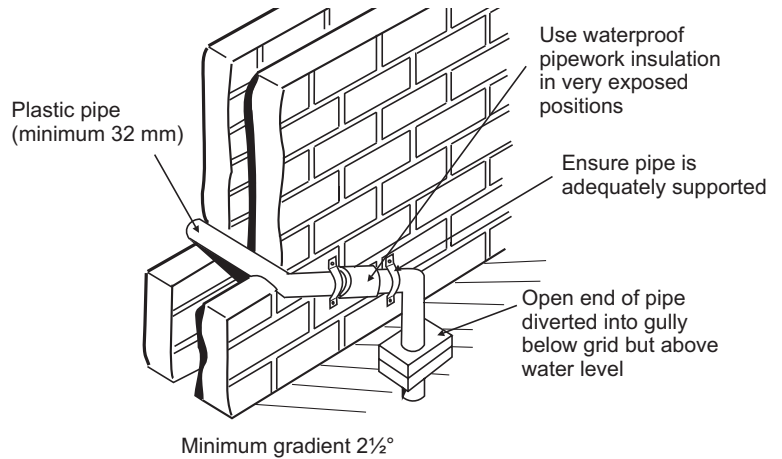

Fig. 3.7 - External gully
External pipe runs should be avoided, but if it is necessary, the pipework should be protected from the risk of freezing with waterproof insulation and the length should be kept to a maximum of 3 m and the condensate pipework should be increased to a minimum of 32 mm diameter. Termination should be into an external gulley or soakaway as shown in Figs. 3.7 and 3.8.
**Note:** All pipework must have a continuous fall (see Figs. 3.7 and 3.8) from the boiler and must be of an acid resistant material such as plastic waste pipe. (copper or steel is not suitable).